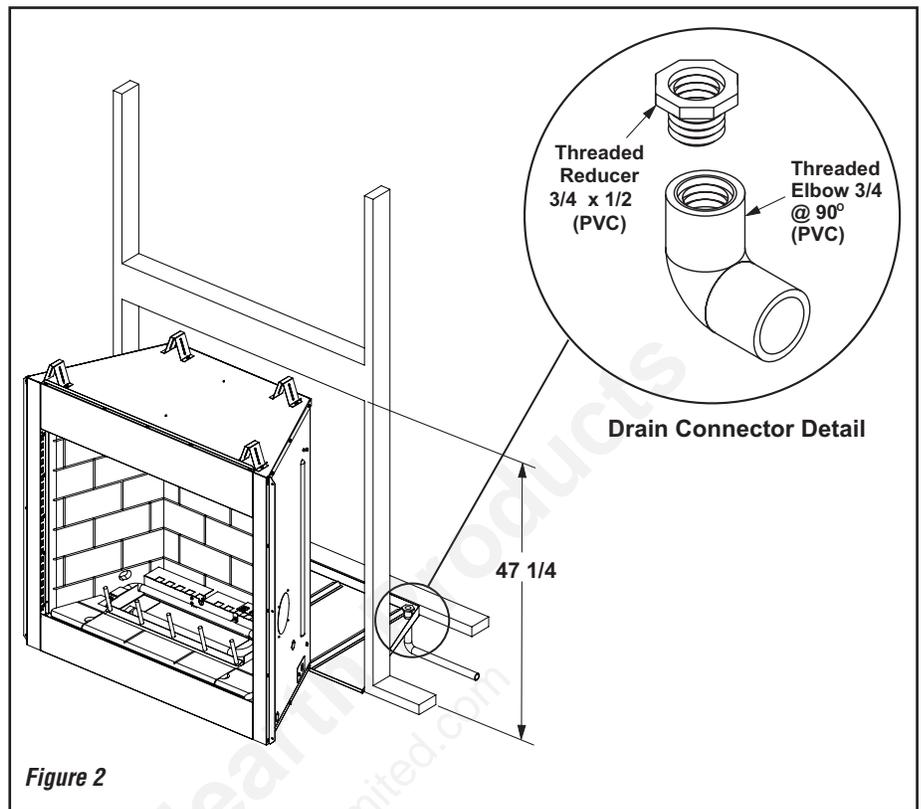

Figure 2
3. Waterproof the fireplace or install the optional drip pan (see **Waterproofing The Fireplace and Figure 2 on Page 5**).
Step 1. Seal all joints, gaps and corners around the bottom of the drain pan before positioning the fireplace on its location (Figure 2).